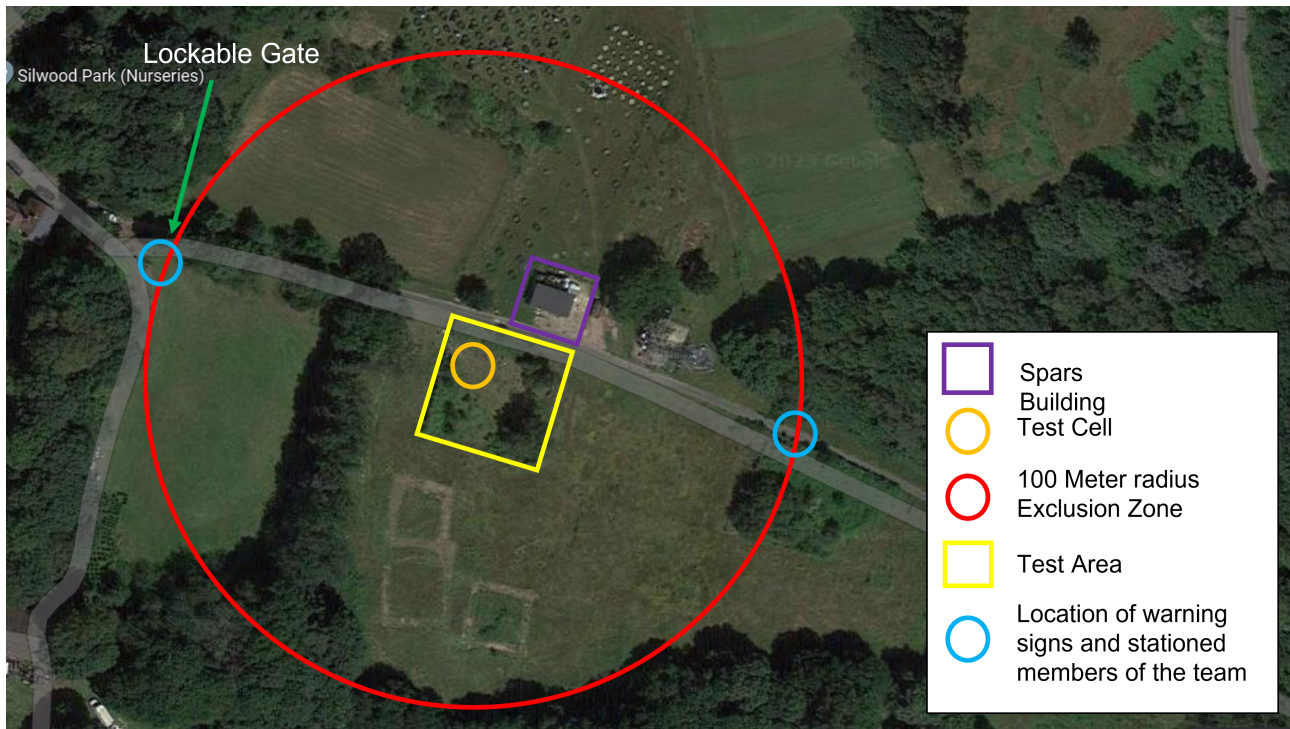

Figure 1: Overview of the Silwood test site (51.414858, -0.6525818)
1. Warning signs will be placed at blue circles as shown in figure 1
1. During hazardous procedures one member of the team will be stationed at either end of the access trail shown in Figure 1.